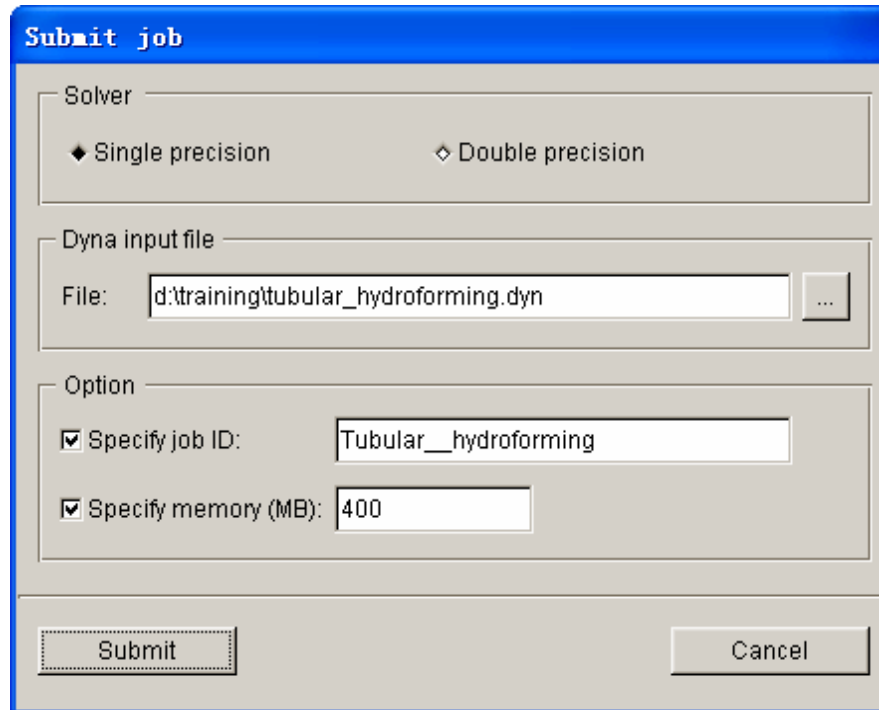

Figure 3.40 Submit job dialog box
2. The SUBMIT JOB dialog box illustrated in Figure 3.40 is displayed.